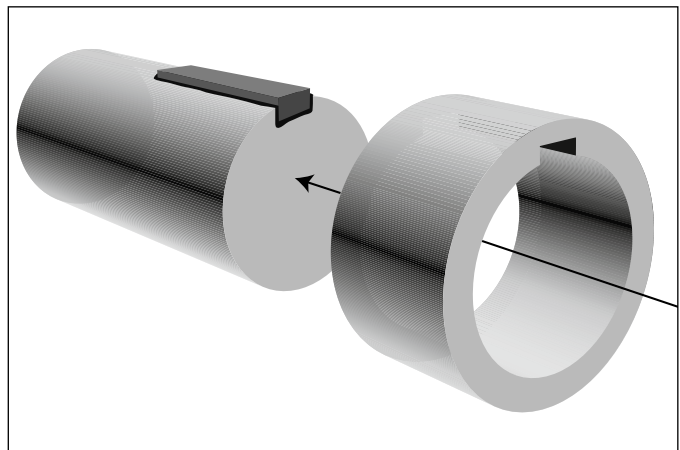

Figure 24. Immediately align key, shaft and hub.
5. **IMMEDIATELY REPOSITION:** Immediately reposition the shaft on the hub to properly align the key, shaft and hub. Leave assembled. (See *Figure 24*)